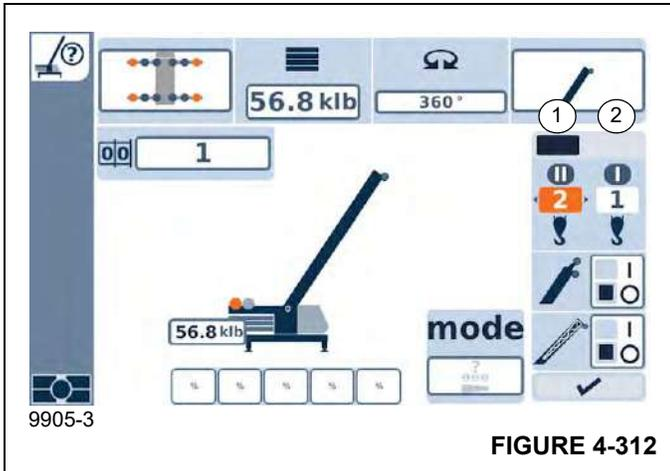

FIGURE 4-312
The load is planned to be raised with the main hoist, for example. However, the hoist indicator (1), (Figure 4-312) for the auxiliary hoist is ON and the indicator (2), (Figure 4-312) for the main hoist is OFF.